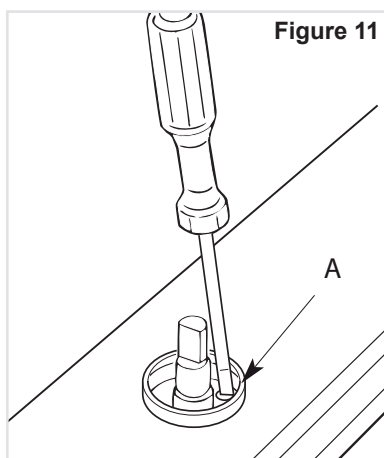

Figure 11
- using a screwdriver turn screw "A" until the flame setting is correct (fig. 11).